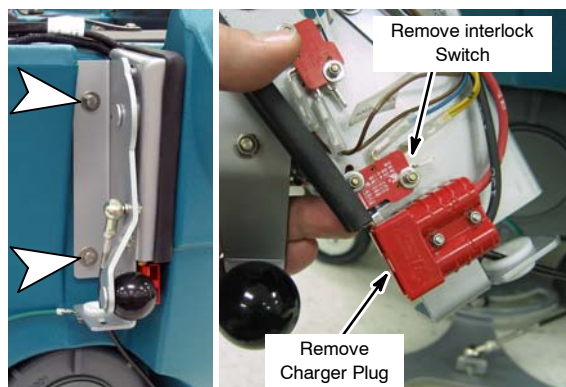

Fig. 2
1. Lower the squeegee lift lever to relieve tension on the lift cable, then remove the squeegee lift bracket. Remove the red charger plug assembly and charger interlock switch from the bracket. Discard the interlock switch (Figure 2).